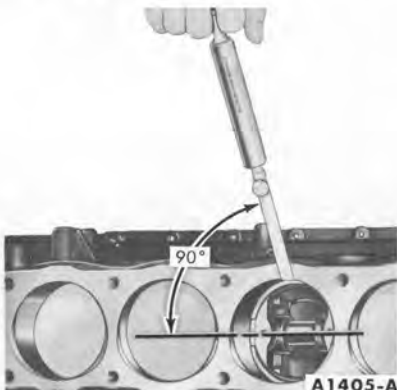

FIG. 63—Piston Fit
5. Position the ribbon in the cylinder bore so that it extends the entire length of the piston at 90° from the piston pin location. Invert the piston and install it in the bore so that the end of the piston is about 1 1/2 inches below the top of the cylinder block and the piston pin is parallel to the crankshaft axis. Hold the piston and slowly pull the scale in a straight line with the ribbon, noting the pull required to remove the feeler ribbon (Fig. 63).